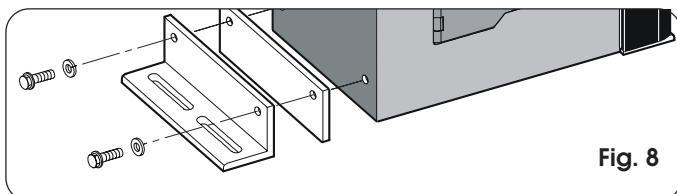

Fig. 8
- 1) Assemble the securing corners and anti-vibration spacers on the operator as shown in Fig. 8.